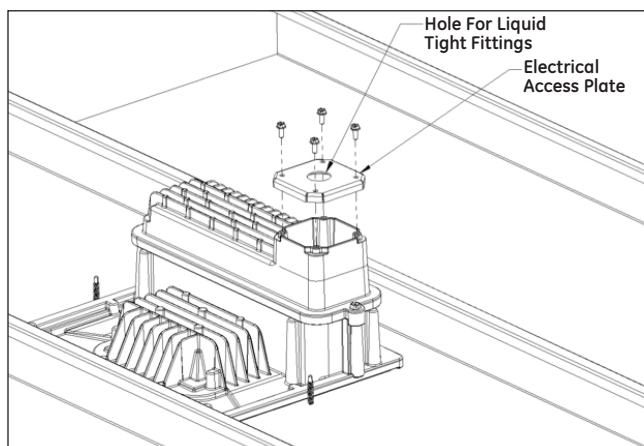

FIGURE 4
1. Connect power to luminaire where Black is Line, White is Neutral and Green is Ground. Replace the electrical access plate with gasket seated against fixture and fasten with provided hardware. Use liquid tight fittings (not supplied) to form a weather tight seal to luminaire. (See Fig.4)